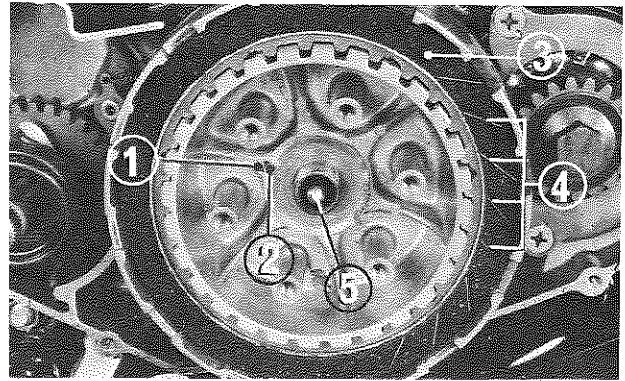

Fig. 3-36 (1) Hole (4) Grooves
4. Install seven friction discs and six clutch plates on clutch center (alternating friction discs and clutch plates). Friction discs must be installed with grooves facing in direction shown in Fig. 3-36.